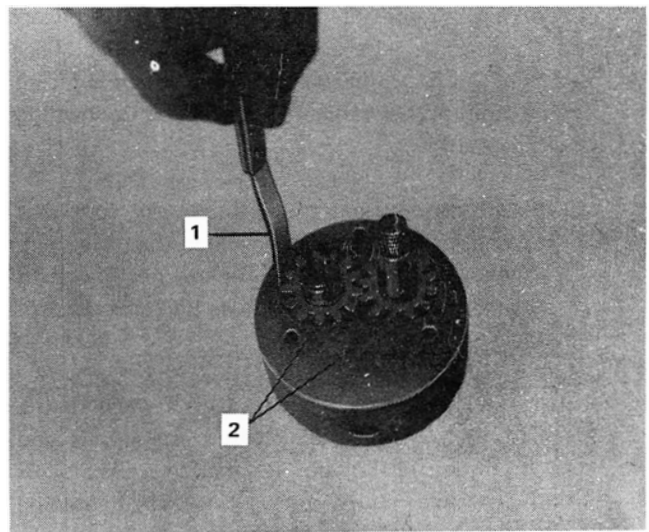

Figure 33
5. Measure the clearance between the oil pump gear teeth and the oil pump case, Figure 33. If the clearance exceeds the specified limit page 30, replace the gear.